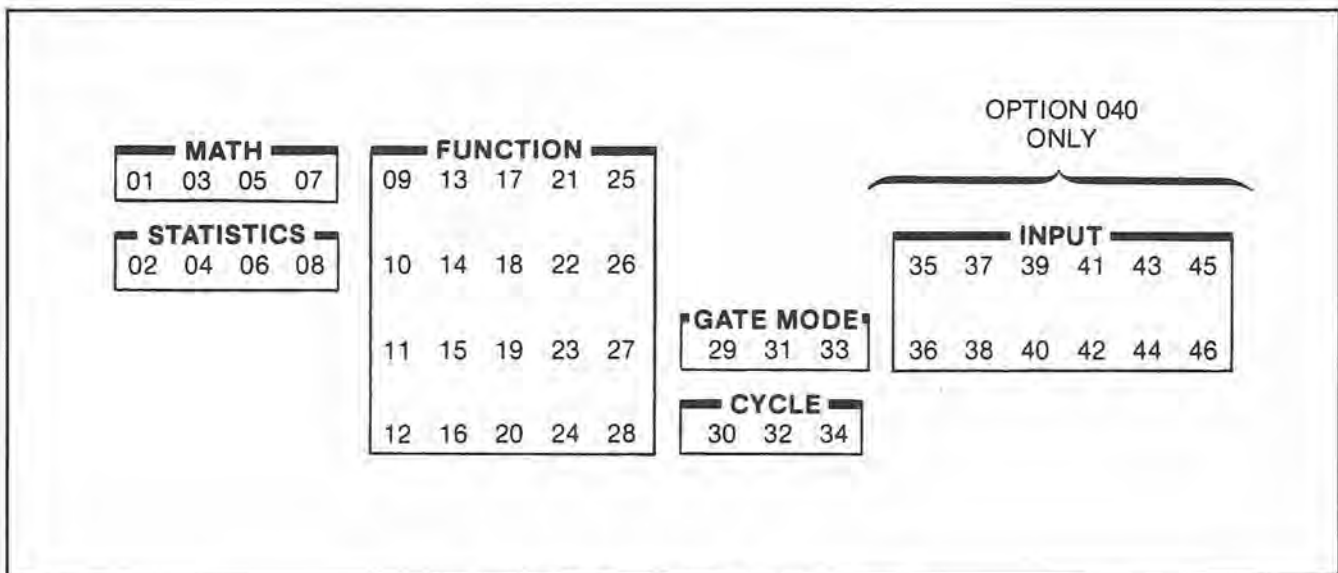

Figure 4-5. Keyboard Check Key Assignments
4-44. DESCRIPTION: This subroutine is designed to verify the ability of the microprocessor to identify an individual software-read front panel momentary switch when it is pressed. When this subroutine is enabled, a number should be displayed on the 5335A when any switch is pressed, corresponding to *Figure 4-5*. The selected key LED will remain ON while the number is being displayed. A "+0" will be displayed in the exponent section of the display during the test.
1. The "+0" EXPONENT will light and a 2-digit display will actively correspond to *Figure 4-5*.